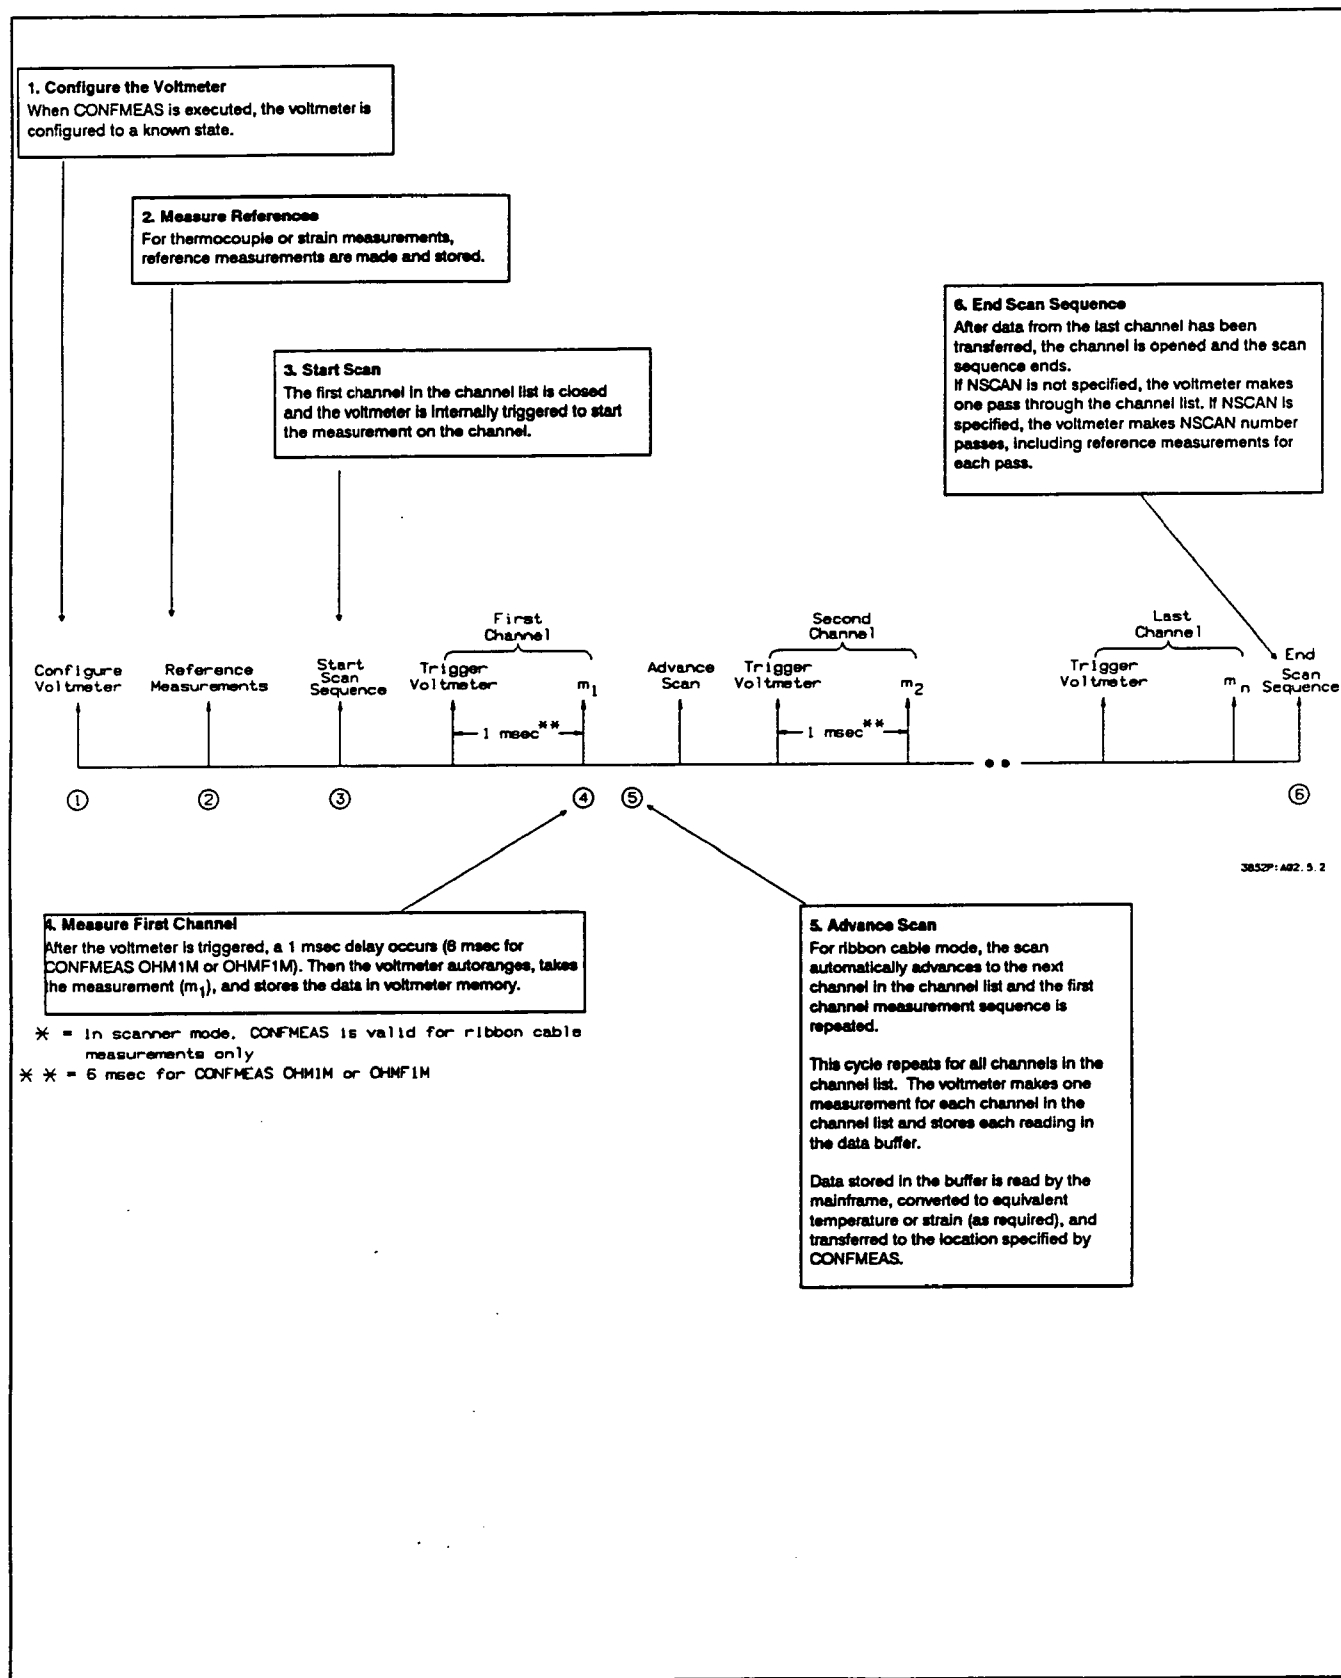

Figure 5-2. CONFMEAS Operation (Scanner Mode)
Figure 5-2 shows simplified voltmeter operation for CONFMEAS with Scanner Mode ribbon cable measurements. When CONFMEAS is executed the voltmeter is configured (1), any required thermocouple or strain references are measured (2), and the scan sequence is started (3).